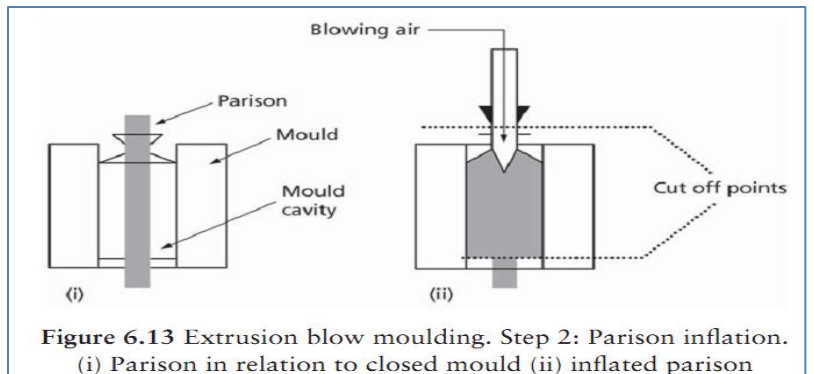

Figure 6.13 Extrusion blow moulding. Step 2: Parison inflation.
- A blow pin comes down into the top of the mould and blows air in to inflate the hot parison against the sides of the mould (Figure 6.13).